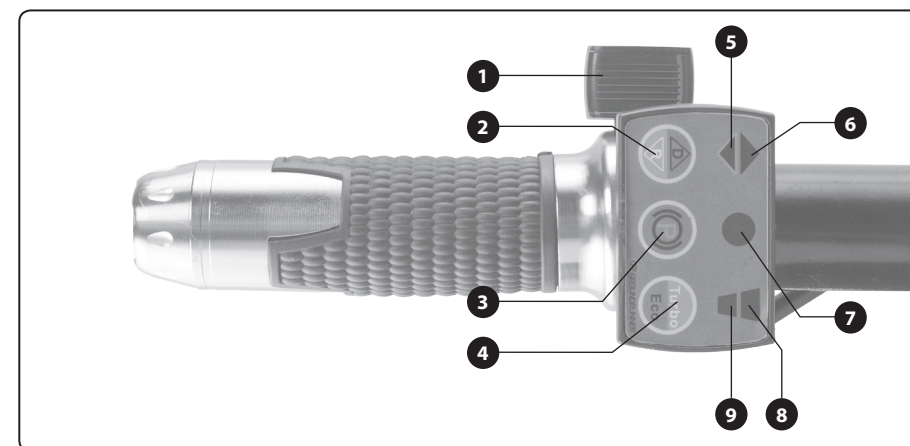

Fig. 19, position-description
- The electric drive is turned on using button (fig. 19, position 1); the degree to which it is pressed regulates the speed. The rotation (travel) direction is set using button (fig. 19, position 2) and drive power (motor power) is set using button (fig. 19, position 4). Pressing button (fig. 19, position 3) will engage the brake and stop movement (block rotation). Further information about the el. drive settings are provided in the description of the control panel (fig. 19).